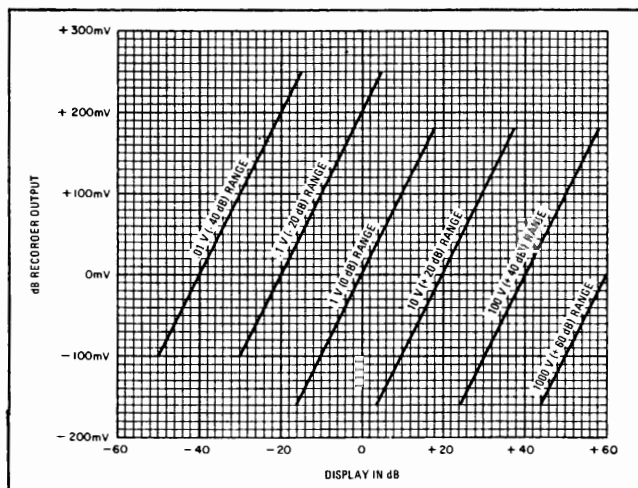

Figure 3-5. dB Analog Recorder Output.
**3-34. dB.** If the instrument incorporates the dB option, a dB Analog Output is provided in addition to the voltage output. Figure 3-5 shows the relationship between the dB Recorder Output, the display, and the range selected. The tolerance of the dB Recorder Output in the AC or DC + AC function is equal to that of the dB measurement accuracy specification. Output resistance is 1000 Ω ± 500 Ω.